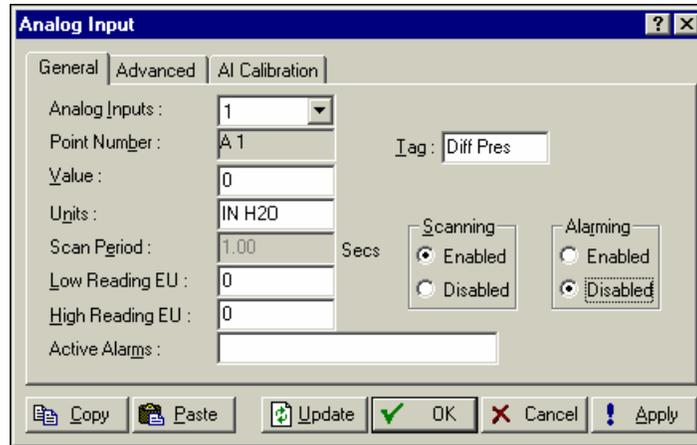

Figure 6-14. Analog Input – Scanning Enabled
3. Ensure that the DVS is not in manual mode by setting the Scanning field in Analog Input Point Number A1 to Enabled. Refer to Figure 6-14.